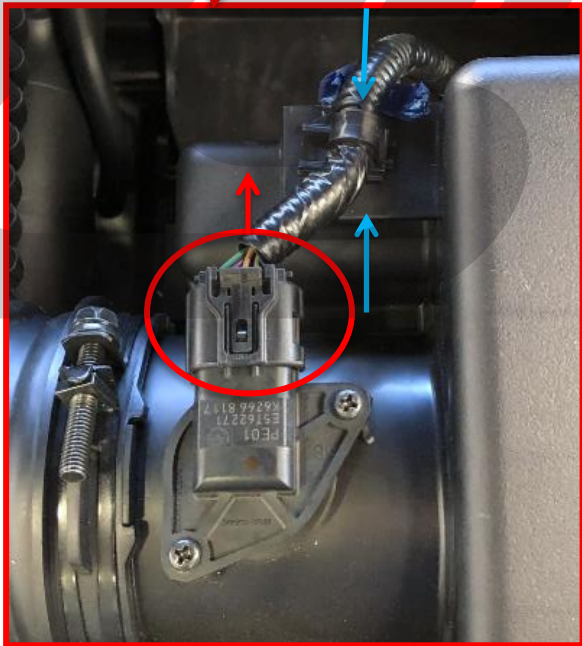

Figure 1b
- Disconnect the wiring clip on the MAF sensor wiring by squeezing the underside in the direction shown in Figure 1b with blue arrows.